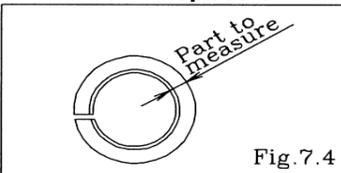

Fig. 7.4
- C Spool Valve Assembly Seal ring [Fig. 7.4]